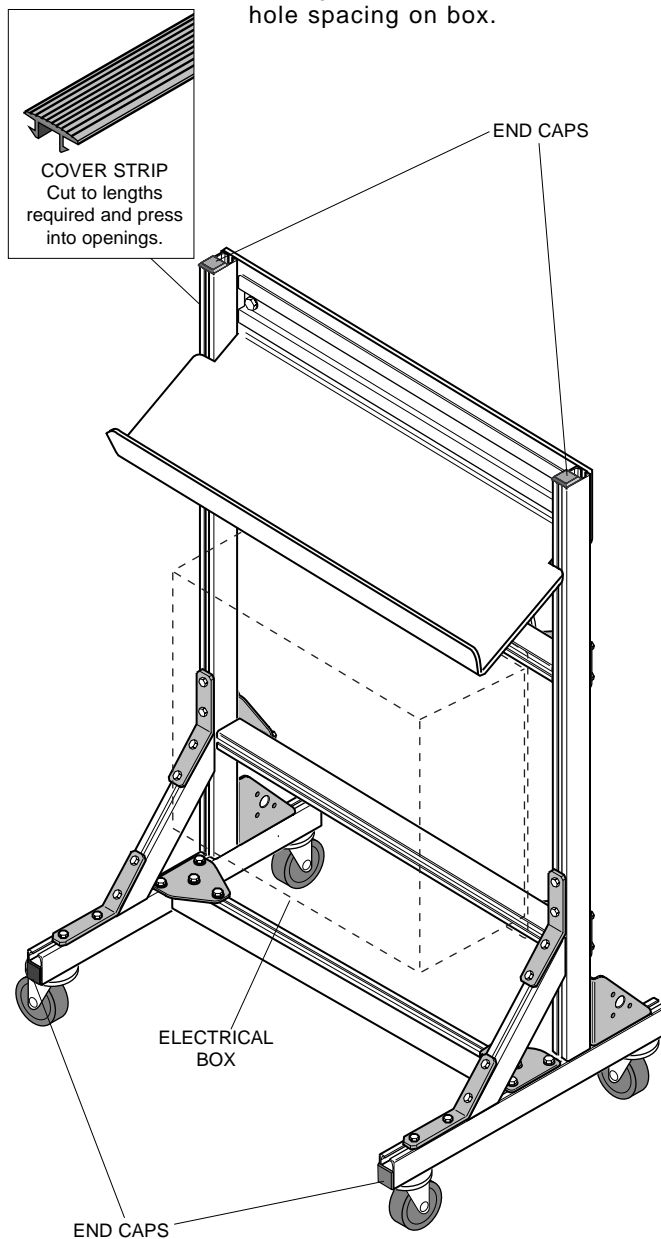

**Figure 10**
11. Mount Bin Bar to front of shelf with hex hd. bolts, washers and hex nuts supplied (Fig 10).
12. Install casters (Fig 10).